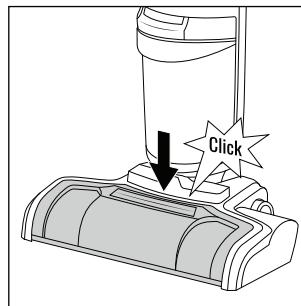

Fig. 42
- ◆ Then push the splash guard **7** into position until it audibly clicks into place on the foot section **3** (see fig. 42).